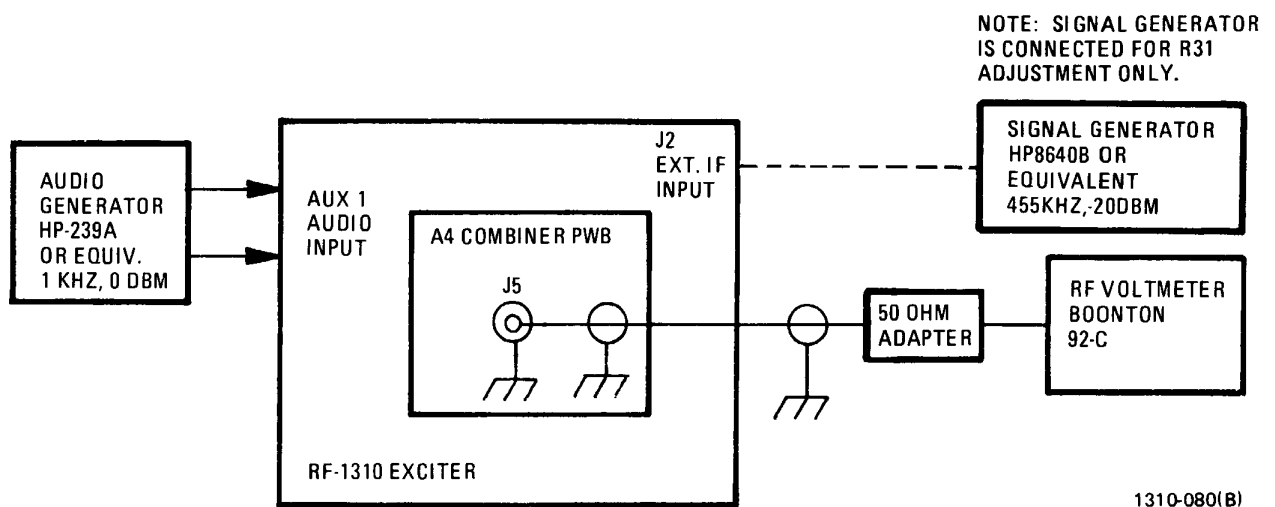

Figure 3. Combiner PWB Assembly Maintenance Setup
- a. Set up the equipment as shown in figure 3. Set the exciter function switch to OFF.